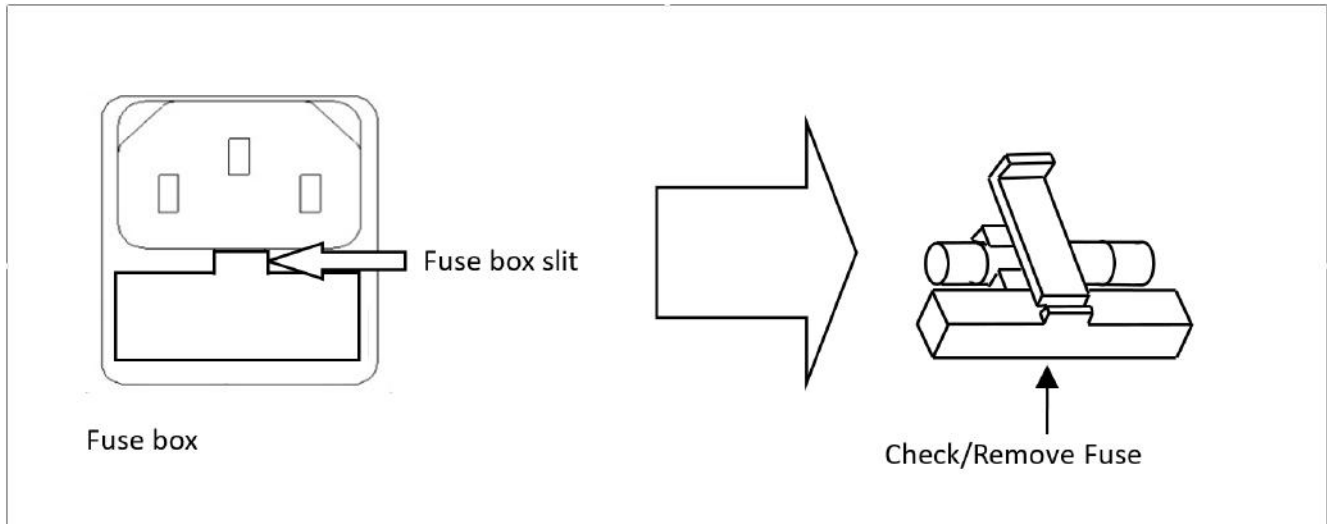

Figure 2.1 Fuse Removal
- Check and replace fuse if necessary. (See figure 2.1)